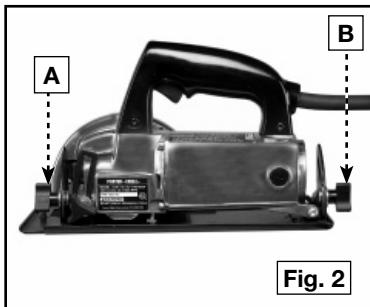
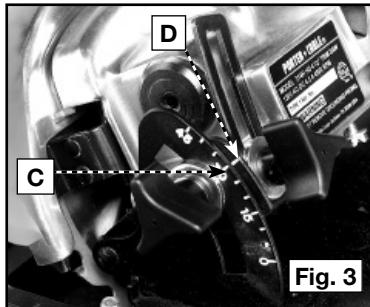

Fig. 2
Fig. 3
Loosen the front (A) Fig. 2 and rear (B) Fig. 2 angle-adjusting knobs. Tilt the saw housing until the desired graduation mark (C) lines up with the indicating line (D) Fig. 3 on the depth-adjusting bracket. Firmly tighten the knobs to hold the saw in the selected position.